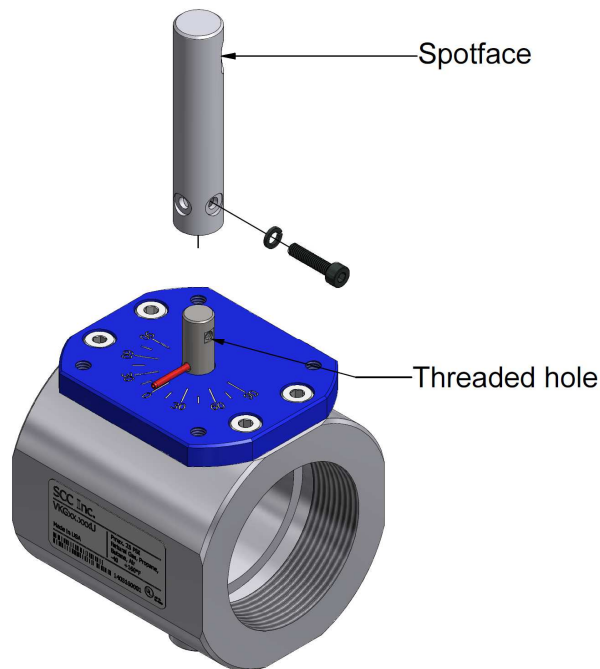
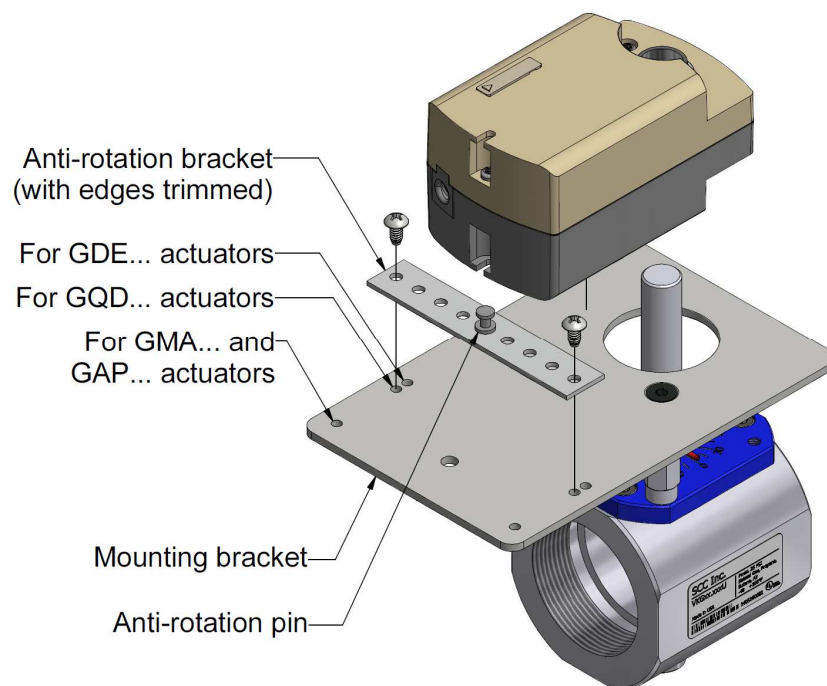

Figure 2: Coupling Installation
Figure 5: Actuator Installation
1. Slide the coupling over the VKG... valve shaft and line up one of the holes in the coupling with the threaded hole in the valve shaft. If mounting a GDE... actuator, make sure that the spotface on the coupling is facing the direction shown below. Using a 3mm hex key, the M4 split lock washer, and the M4 x 18mm socket cap screw, fasten the coupling to the valve shaft as shown in Figure 2 below.
Slide the anti-rotation bracket underneath the back end of the actuator so that the anti-rotation pin slides inside of the groove on the back of the actuator. Two of the holes in the anti-rotation bracket should then line up with a pair of holes on the mounting bracket. Figure 5 details which pair of holes should be used depending on the actuator being mounted. Using a Phillips screwdriver and the (2) #10-24 x 3/8" thread-forming screws, fasten the anti-rotation bracket to the mounting bracket as shown below in Figure 5. Finally, use the hex key that was provided with the actuator to tighten down the clamp around the coupling. On GDE... actuators, a set screw is used instead of a clamp. The set screw should land on the spotface in the coupling (see Figure 2).